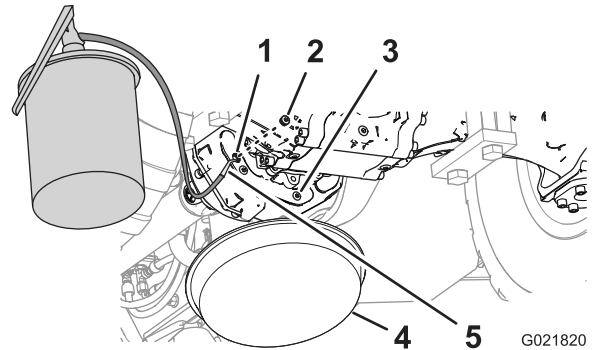

Figure 72
5. Install one of the plugs into the drain port of the transmission (Figure 72).
6. Fill the transmission with the specified oil through the sight port until the oil is level with the threads at the bottom of the port (Figure 72).
8. Install the remaining plug in the sight port of the transmission (Figure 72).